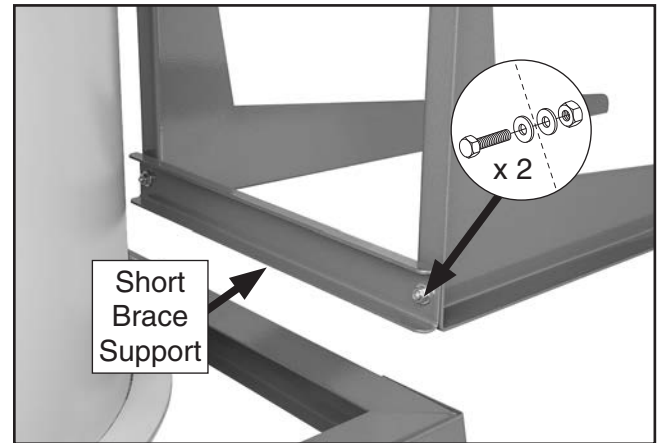

Figure 25. Short filter brace support attached.
29. Secure short filter brace support to back of filter L-braces with (2) $\frac{3}{8}$ "-16 x $\frac{3}{4}$ " hex bolts, (4) $\frac{3}{8}$ " flat washers, and (2) $\frac{3}{8}$ "-16 hex nuts (see **Figure 25**).